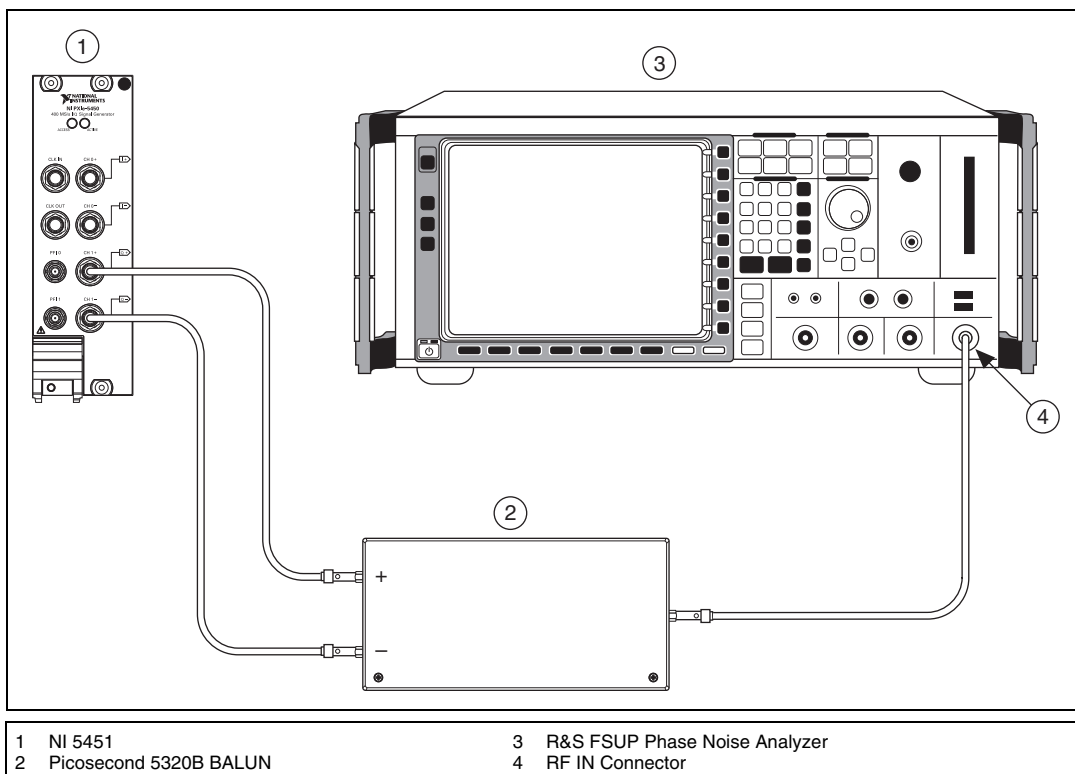

Figure 17. NI 5451 Connection to a Phase Noise Analyzer Using a BALUN (CH 1)
7. Connect the differential CH 1 on the NI 5451 through the BALUN to the phase noise analyzer, as shown in Figure 17.